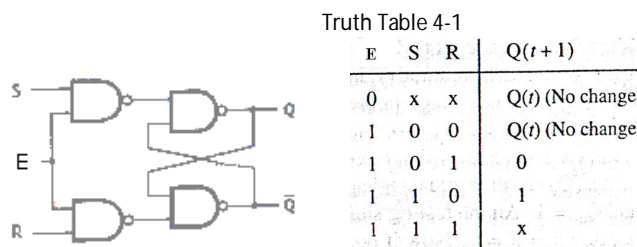

Fig. 4-1: SR latch using NAND gates
Step 1: Install the components of Fig 4-1 onto the breadboard of AT-700 and properly link the connections. Remember to connect each IC's pin 14 to "+5V" of DC power supply of AT-700 and pin 7 to "GND".
Step 2: Connect the Data switches "0", "1" and "2" to point E, S and R of fig. 4-1 respectively. Then connect 8 bit LED Display's "0", and "1" to the outputs Q and Q' of Fig. 4-1 respectively.